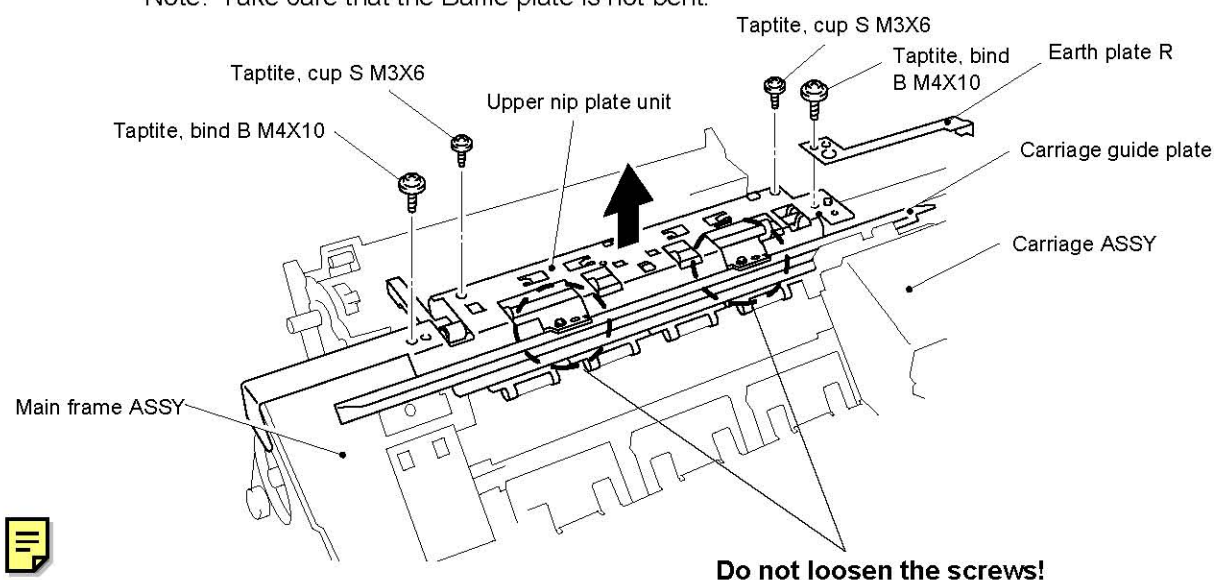

Fig. 4.74
- (1) Run the harness of the MED sensor PT380 ASSY through the hole in the Main frame ASSY. Insert the CR guide plate between the CR sub guide and Carriage ASSY by slightly lifting the Carriage ASSY upwards.
- (2) Position the Upper nip plate onto the two bosses on the Main frame ASSY so that the harness is not loose. At this time, check that the two register roller springs are correctly located on the pinch roller shaft. Fit the Earth plate R on the right hand side of the Upper nip plate. Secure the Upper nip plate unit with four screws. Refer to fig. 4.74.